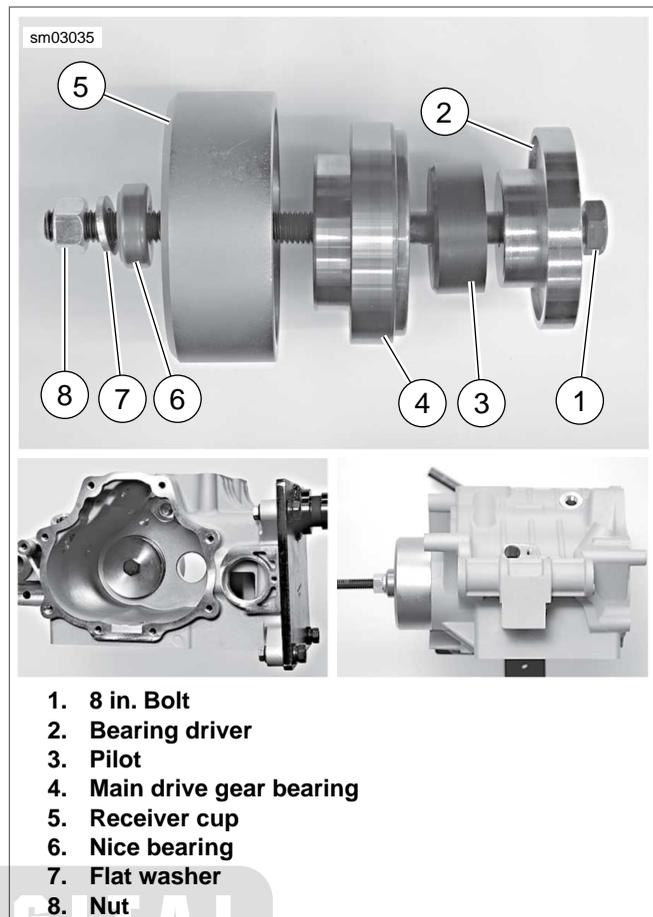

Figure 7-37. Removing Main Drive Gear Bearing
13. See Figure 7-37. Slide PILOT (Part No. HD-35316-10) (3) over small end of BEARING DRIVER (Part No. HD-35316-9) (2).
14. Apply a light coat of graphite lubricant to the threads of the 8 IN. BOLT (Part No. HD-35316-4A) (1) and insert through bearing driver and pilot.
15. Insert bolt with bearing driver and pilot into right side of transmission case, through main drive gear bearing (4). Make sure bearing driver fits up against main drive gear bearing and pilot is centered in bearing bore.
16. At left side of case, slide RECEIVER CUP (Part No. HD-35316-11) (5) onto bolt and over main drive gear bearing. Install NICE BEARING (Part No. RS-25100-200) (6), flat washer (7) and nut (8) over end of bolt.